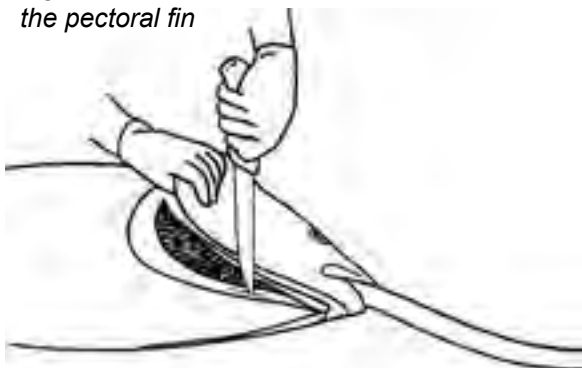

Fig. 16 Make a cut between the gill collar and the gills, and place a hose pipe carrying seawater into the mouth (above), or side of the gill (below).
- A second cut is made in the membrane between the gill collar and gills, to sever the arteries supplying the gills. Then place a deck hose into the fish's mouth to wash blood out of the gill cavity (Fig 16).